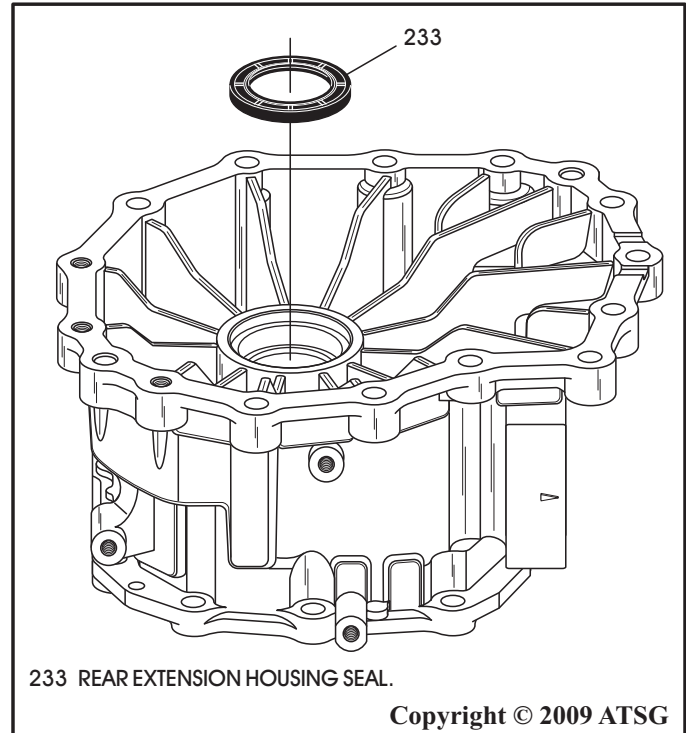

Figure 150
5. Install a new extension housing seal, as shown in Figure 150, using the proper seal driver.